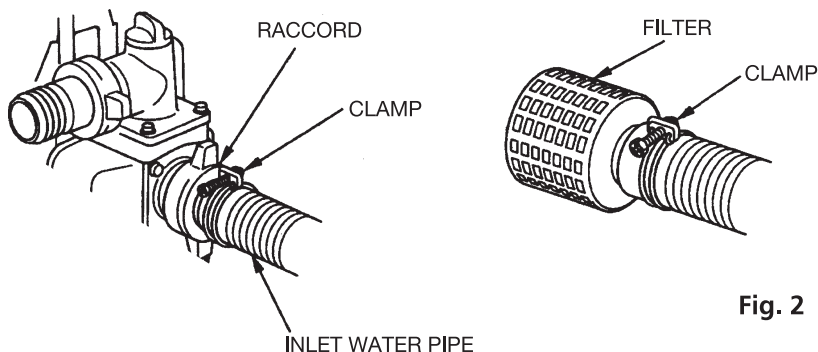

Fig. 2
- The filter should be fitted on the end of inlet water pipe with the clamp, as shown on figure 2.